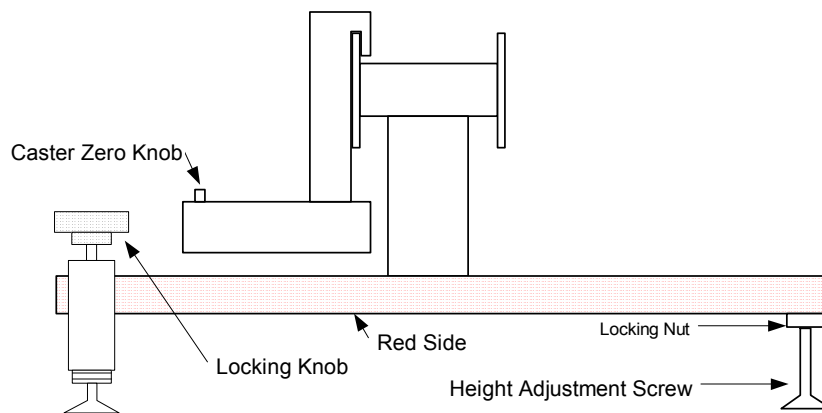

Figure 9
2. Hang the gauge on the red side and zero the camber bubble using the camber zero adjust knob. (refer to Figure 9)
2. Hang the gauge on the red side and zero the camber bubble using the camber zero adjust knob (refer to Figure 9).
2. Hang the TL-30 EZ-Check Angle Gauge on the red side disk in the normal way and zero the caster bubble using the caster zero knob. (Fig. 9)